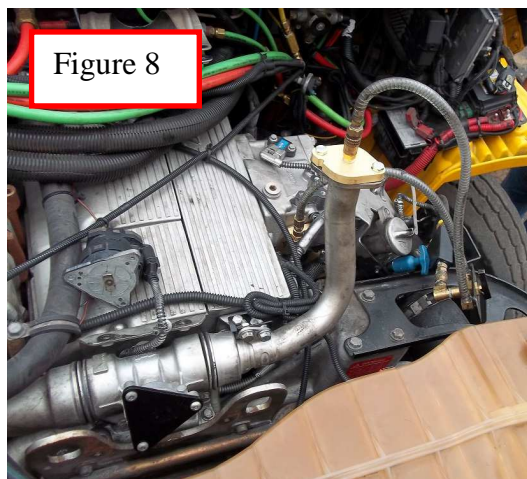

Figure 8
- Attach the EGR Manifold (201399) to the EGR Intake Adapter and Exhaust Adapter (see Figure 8). Attach the EGR Cleaning tool (201170) to the EGR Manifold. Ensure that the air valve and fluid valve on the EGR Cleaning Tool are closed – see the EGR Cleaning tool user guide.